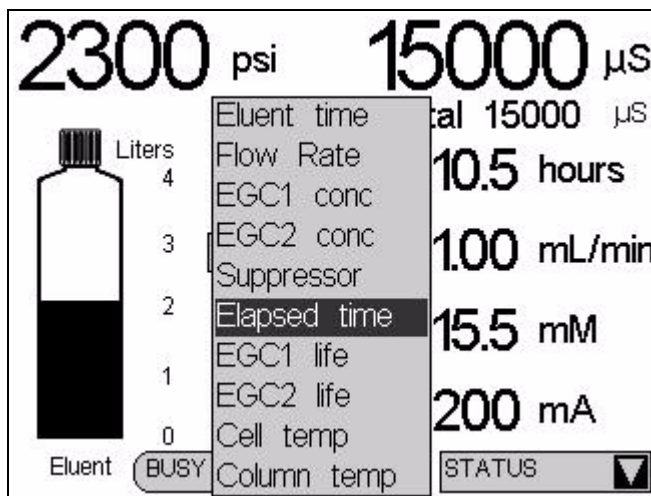

Figure C-12. Status Page Parameter List
2. Touch the down arrow next to the field you want to change. A list of the available status parameters appears (see Figure C-12).